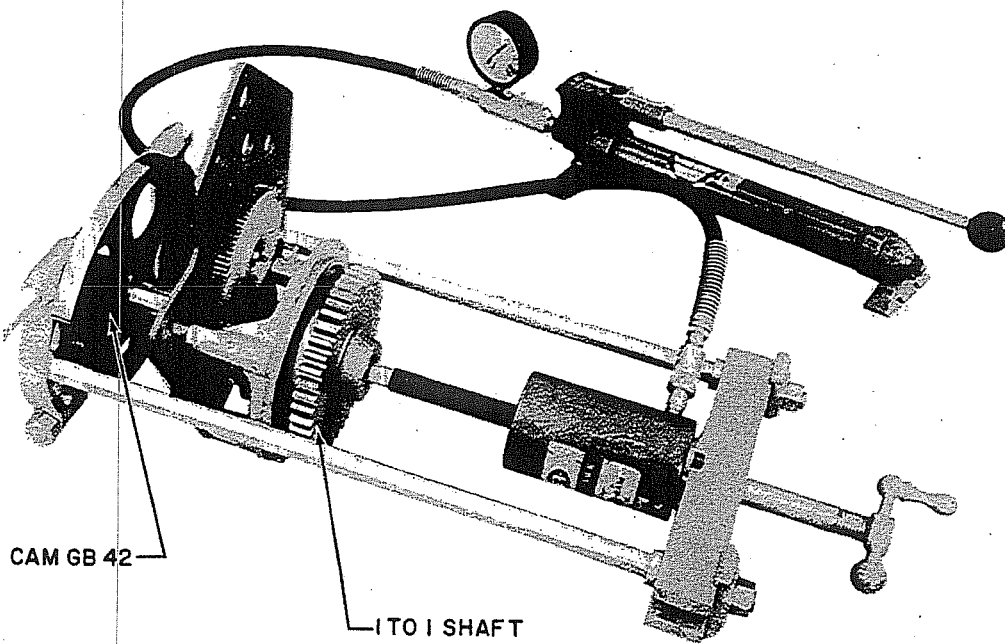

Figure 37. 1 to 1 Shaft, Installation of Cam GB42
- Y. Secure the bearing pulling attachment behind Moving Deck-Scissor Cam GB42 (page 5 of Parts Catalog) and install by applying pressure to the shaft (figure 37). The shaft should be cleaned and lubricated prior to assembly.